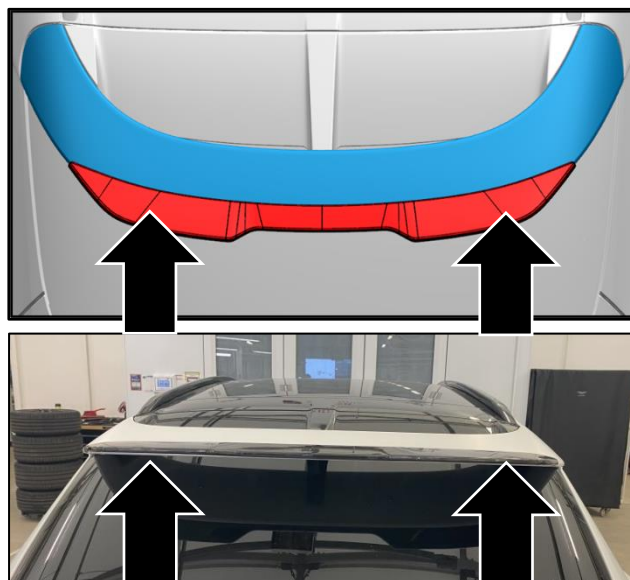

Figure 2
2. Apply 10 kg of upwards force to the areas shown (refer to Figure 2).